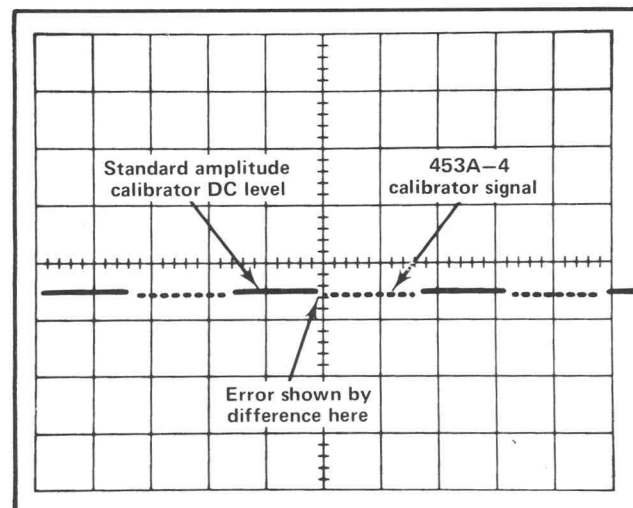

Fig. 5-1. Typical CRT display when checking voltage output of calibrator.
- g. CHECK—Difference between the standard amplitude calibrator output level and the 453A-4 calibrator output is 0.1 division or less (one volt output, $\pm 1\%$; see Fig. 5-1).